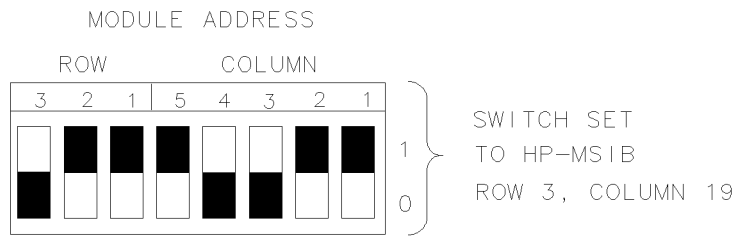

Figure 2-2. Address Switches
1. Set the three ROW switches to the binary value of the module's HP-MSIB row number. For example, if the row number is 3, change the switches to binary 011 as shown in Figure 2-2.
2. Set the five COLUMN switches to the binary value of the module's HP-MSIB column number. For example, if the column number is 19, change the switches to binary 10011 as shown in Figure 2-2.